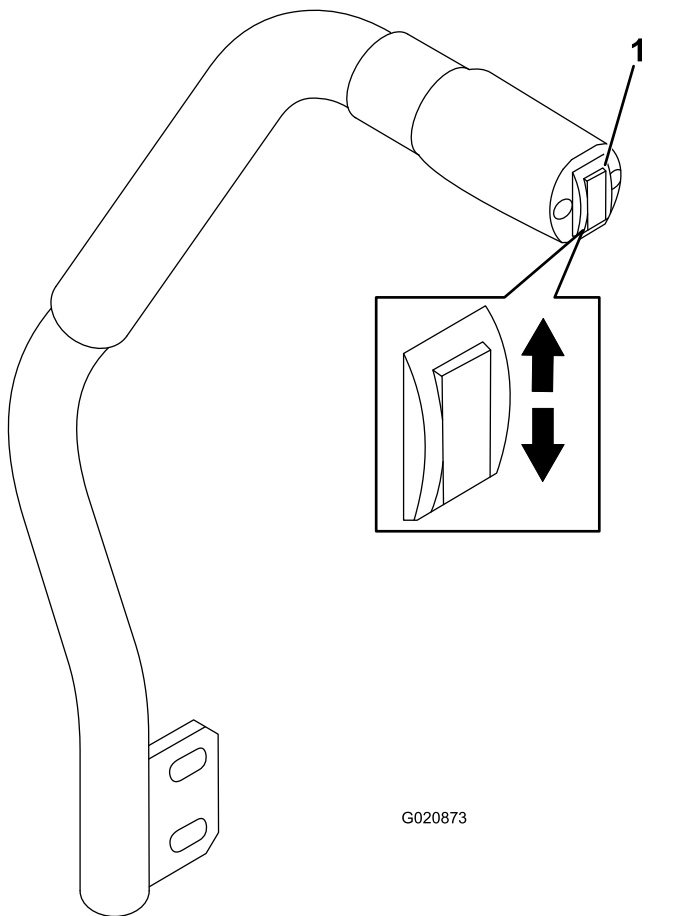

Figure 24
The deck-lift switch raises and lowers the cutting unit (Figure 24). The engine must be running for you to use this lever.
- To lower the cutting unit, push the deck-lift switch down (Figure 24).
- To raise the mower deck, push the deck-lift switch up (Figure 24).